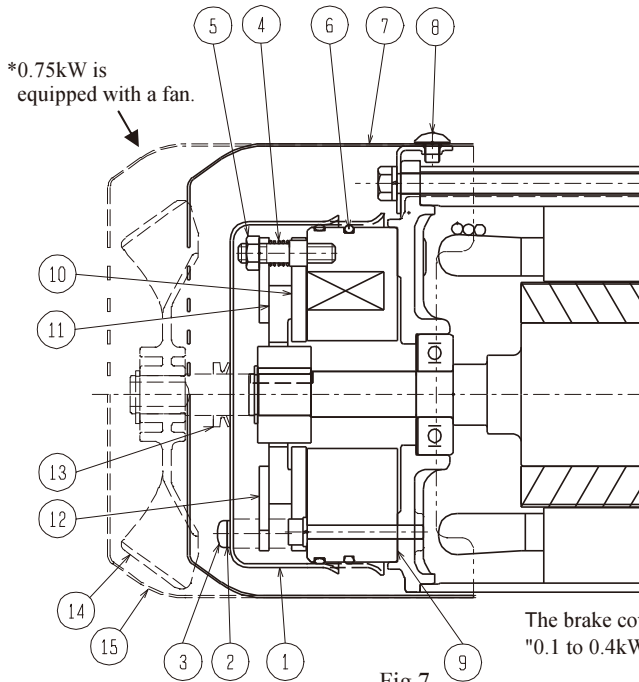

Fig.7
Fig.7 shows the structure of the brake. The non-excitation braking method (spring-driven braking method) is used for all the models.
2) Gap adjustment procedure (Refer to the structural drawing of the brake. (Fig.7))